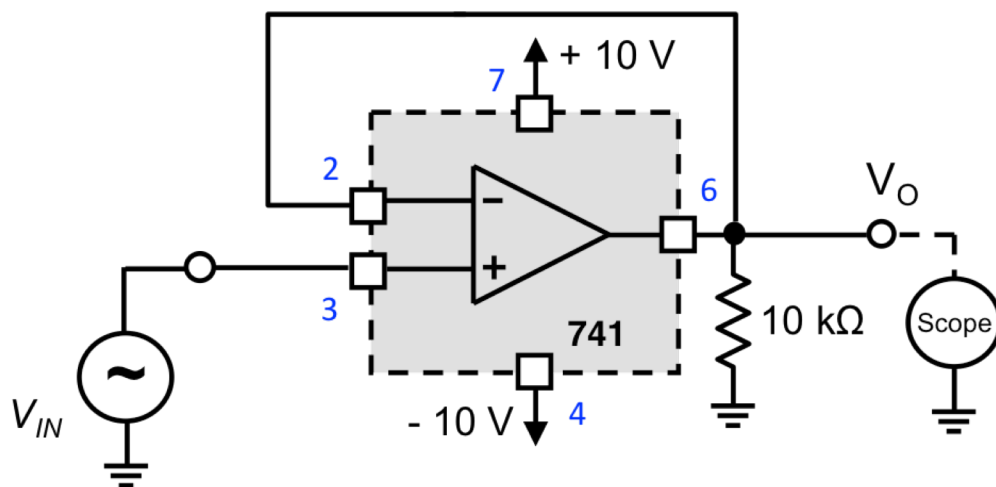

Fig. 4: Voltage Follower
(2) **Voltage Follower** (Fig. 4): Apply the same signal to the input as in part 1. Note that with negative feedback (output to the – input terminal) the op-amp will adjust its output so that the inverting input is at the same voltage as the noninverting input. *What is the signal at the output? What is the input impedance of the circuit? Justify your answer with actual measured data. What happens with a square-wave input?*